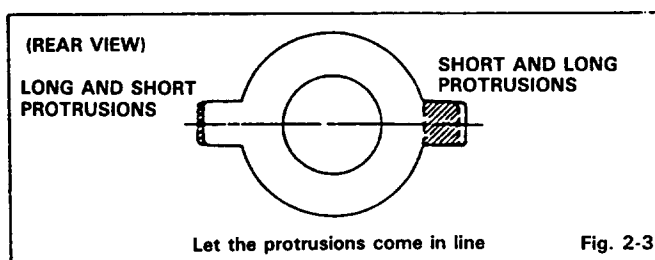

Fig. 2-3
2. Let the purity tabs come in line horizontally as is shown in Fig. 2-3. A long tab should be in the same direction as the other short tab.